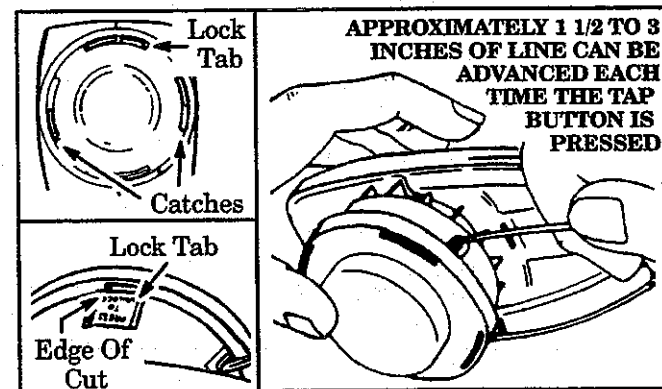

Figure 14
- h. Reinstall the tap button and lock ring. Turn the lock ring clockwise and fasten the lock tabs in all four catches on the hub. Figure 14.
NOTE: Check to be sure the lock ring is properly installed by attempting to turn the ring counterclockwise and pulling on it. Make sure the catches and lock tab appear from the bottom of the head as shown in Figure 14 (insets). Be sure the lock tab hits the edge of the cut-out when you turn the lock ring counterclockwise.
- i. Properly reinstall if the lock ring comes off or if the lock tab or catches do not look like those shown in Figure 14.
- j. Pull the line to change the spool from the locked position to the operating position. Figure 14. Obtain correct line length by pressing tap button and pulling on nylon line again. If line extends one inch or more beyond the line limiter, cut line near the line limiter. Excessive line can cause premature damage to the shield.